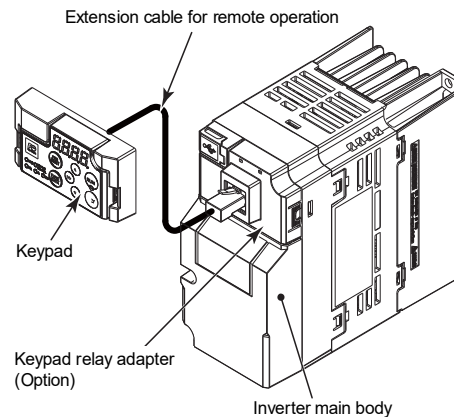

Figure 2.3-3 Operating the keypad remotely, by hand
- Operate the keypad remotely, by hand (refer to Figure 2.3-3)